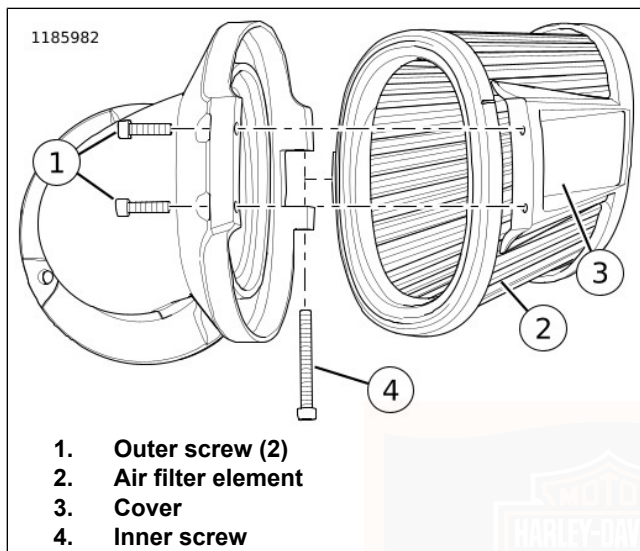

Figure 72. Air Filter: Cone
1. See Figure 72. Remove two outer screws (1).
2. Remove inner screw (4).
3. Remove air cleaner cover (3) and remove air filter element (2).
1. See Figure 72. Install air filter element (2) into cover (3).
3. Install inner screw (4). Tighten. 2–2.7 N·m (18–24 in-lbs)
4. Install outer screws (1). Tighten. 2–2.7 N·m (18–24 in-lbs)